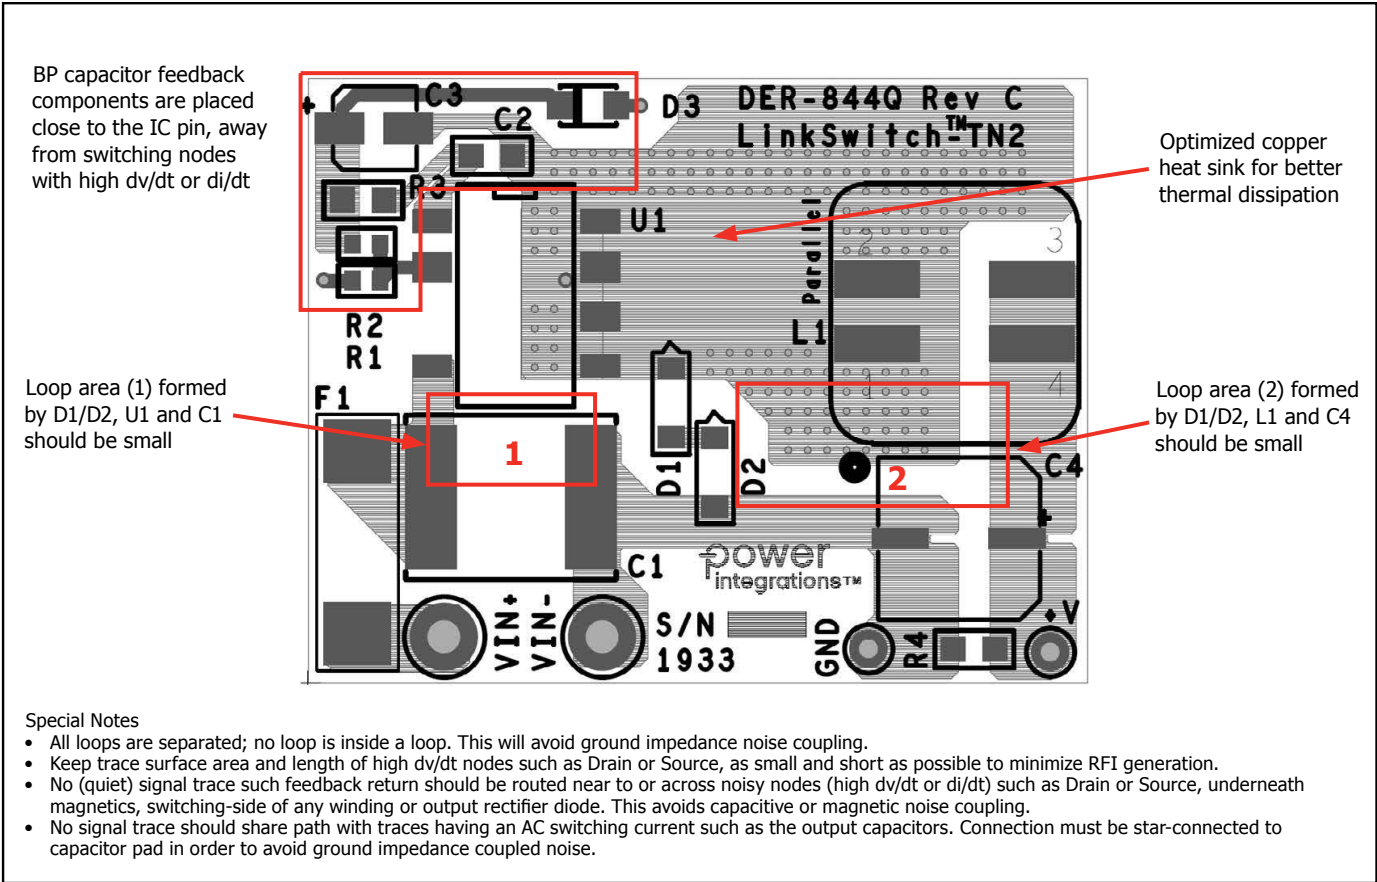

Figure 8. Recommended Printed Circuit Layout for LinkSwitch-TN2 Automotive using G Package.
Figures 8 are printed circuit board layout design examples for the circuit schematic shown in Figure 7. The loop area 1 formed by LinkSwitch-TN2 (U1), free-wheeling diodes (D1, D2), and input bypass capacitor (C1) should be kept as small as possible. The loop area 2 formed by inductor (L1), output filter capacitor (C4) and free-wheeling diodes (D1, D2) should also be kept as small as possible. The BYPASS pin capacitor C2 should be located physically close to the BYPASS (BP) and SOURCE (S) pins. Effective decoupling capacitor C1 placement should be close to the DRAIN (D) pin. For a clean feedback signal, Feedback diode (D3) should be star connected to output cap (C4). Trace from output cap (C4) to Feedback diode (D3) should be space out properly away from switching nodes.